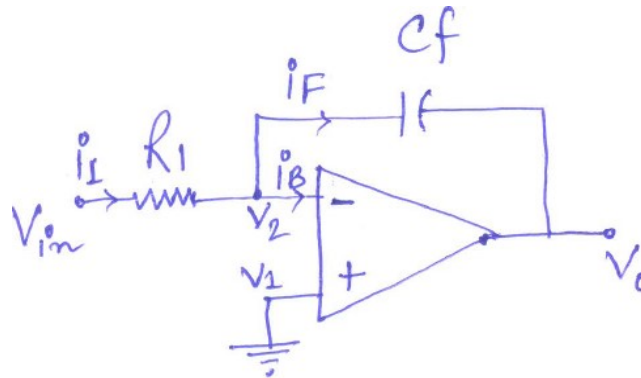

Fig.5.24 Integrator circuit
- An integrator circuit based on op-amp is shown in Fig.5.24